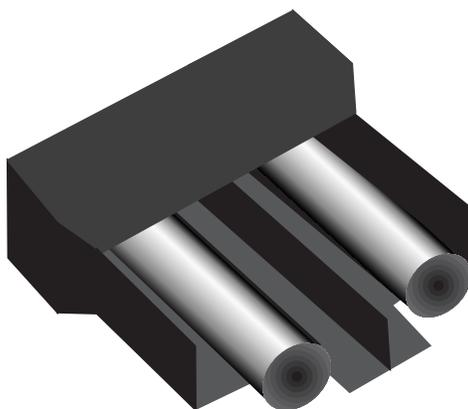

Figure 4.3: The Fuse Box and Holder (with Fuses) Removed
- 6) When removed, the fuse assembly will appear as shown in Figure 4.3. The holder inside contains two fuses.